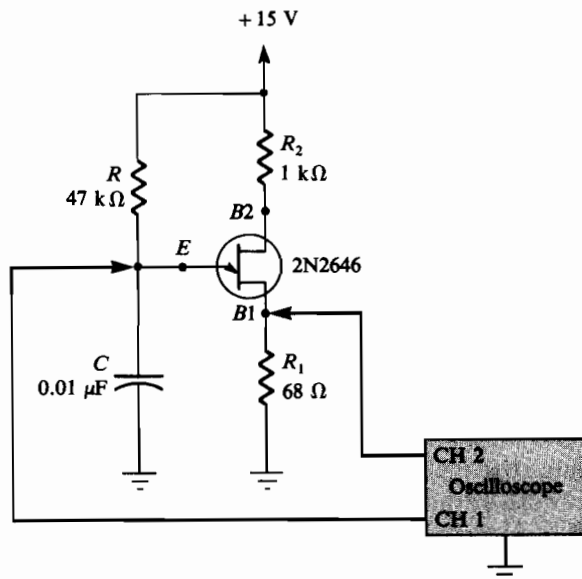
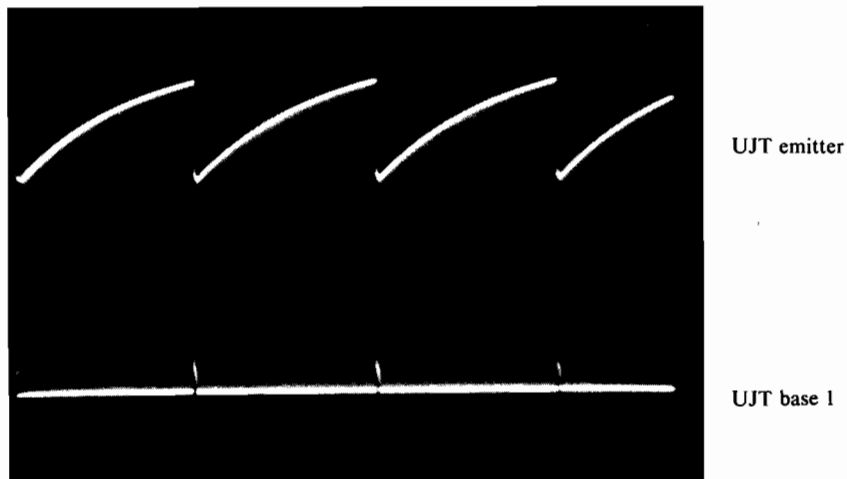

FIGURE 29-2 Schematic diagram of circuit.
FIGURE 29-3
9. Wire the circuit shown in the schematic diagram of Figure 29-2. Initially, leave the 47-k Ω timing resistor disconnected from the circuit. In addition, set your oscilloscope to the following approximate settings:
11. Now add the 47-k Ω timing resistor to the circuit as shown in Figure 29-2. On Channel 1, you should now see displayed a capacitor charge-discharge "sawtooth" waveform like that shown in Figure 29-3. Using your oscilloscope, measure the frequency (f_o) of this waveform, and record this value in Table 29-2.
1. If the intrinsic standoff ratio for the UJT used in the circuit of Figure 29-2 is 0.75, the output frequency of the relaxation oscillator is approximately
2. If the intrinsic standoff ratio for the UJT used in the circuit of Figure 29-2 increases, the output frequency of the relaxation oscillator
3. If the UJT interbase resistance is 6 k Ω , the base 2 voltage for the circuit the Figure 29-2 is approximately